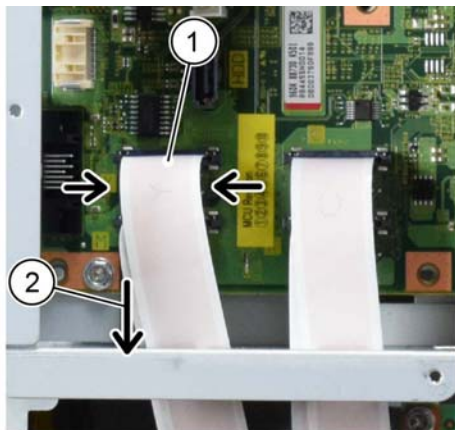

Figure 5 FFC cables
6. Disconnect the four FFC cables, Figure 5 :